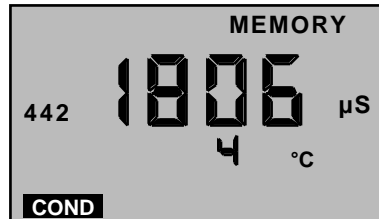

Figure 9
2. "MEMORY" will appear and the temperature display will be momentarily replaced by a number (1-20) showing the position of the record. Figure 9 shows a reading of 1806 μ S stored in memory record #4.